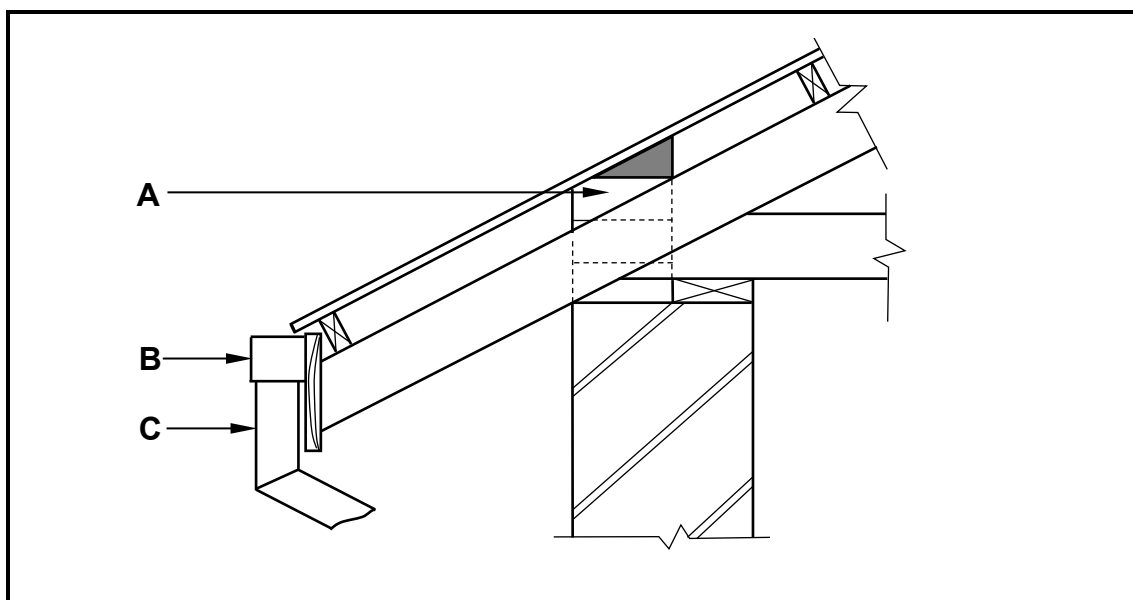

FIGURE 4.4
- 4.4 FIGURE 4.4 below shows an incomplete sectional elevation of the foot of a roof construction with open eaves.